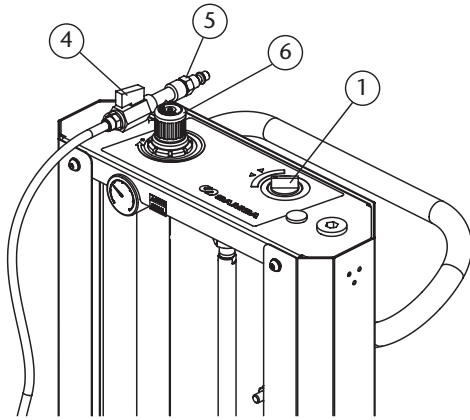

Fig. 3
Use the inductor pressure control (pos. 6) to adjust the lifter pressure 5.5 and 6 bar (fig. 3).